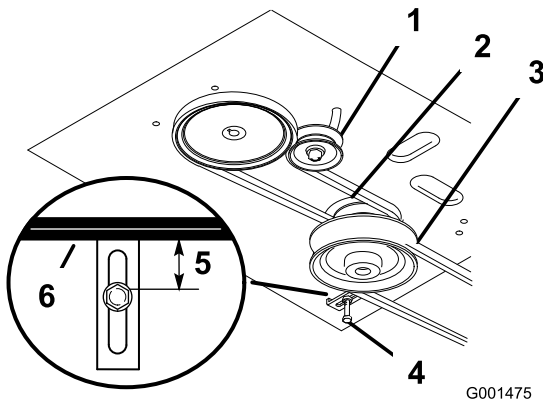

Figure 33
4. Remove the mower belt; refer to Replacing the Mower Belt (Figure 33).
5. Loosen the pivot bolt enough to slide the idler pulley in the slot and remove the traction belt from the engine and the drive pulleys (Figure 33).
6. Install the new drive belt around the engine and the drive pulleys (Figure 33).
7. Slide the idler pulley in the engine frame to tension the traction belt (Figure 33).
8. Install the mower belt (Figure 33).
9. Check the belt guide under the engine frame for the proper adjustment (Figure 33).
13. Check the belt guide under the engine frame for the proper adjustment (Figure 33).